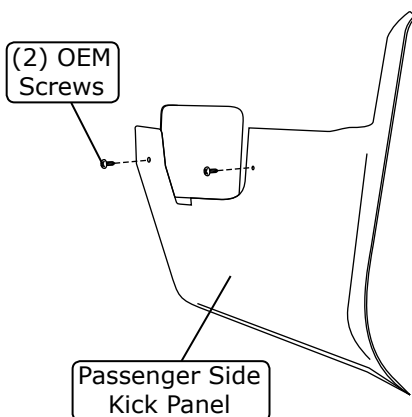

Figure 5
1. Remove the passenger side kick panel by removing the (2) OEM screws (See Figure 5, below).